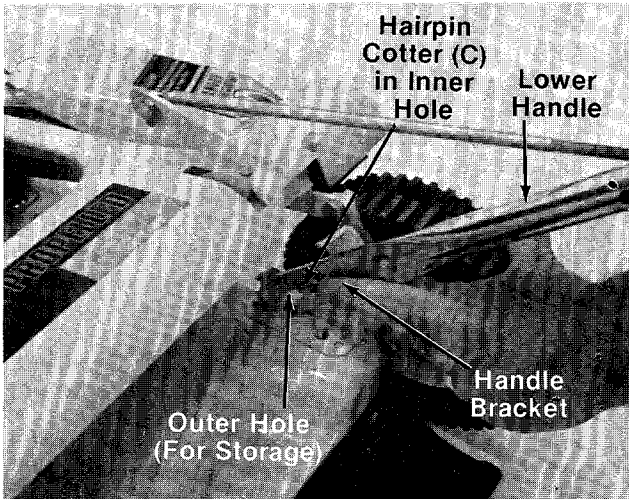

FIGURE 2.
- C (3) Hairpin Cotter
- D (1) Spring
- E (2) Curved Head Carriage Bolts
- F (2) Lock Washers 5/16" I.D.
- G (2) Hex Nuts 5/16-18 Thread
- H (1) Hex Bolt 1/4-20 x 1.50" Long
- I (1) Hex Lock Nut 1/4-20 Thread
- J (2) Cable Ties
3. Fasten lower handle in position over weld pins in handle mount brackets on deck. Secure with hairpin cottes (C) in inner hole on weld pin. See figure 2.